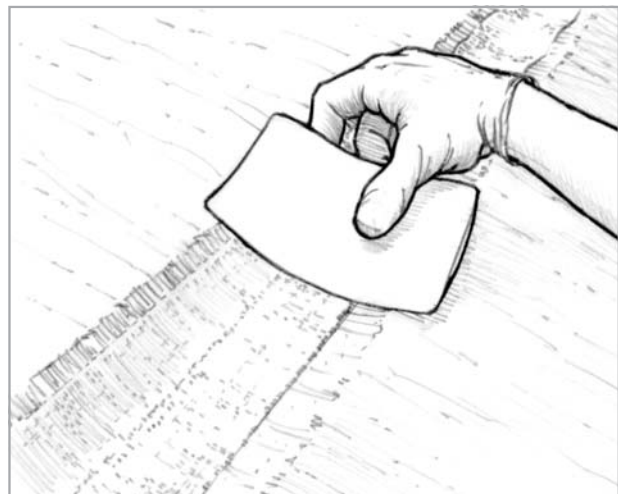

Figure 5-11 Apply fiberglass tape over the prepared joint.
6. Apply a layer of fiberglass tape in the depression along the joint (*Figure 5-11*). 727 Biaxial Tape (4" wide) is ideal for this joint. Use the spreader to work epoxy into the fabric and remove the excess. Apply additional layers, if desired, in the same manner.